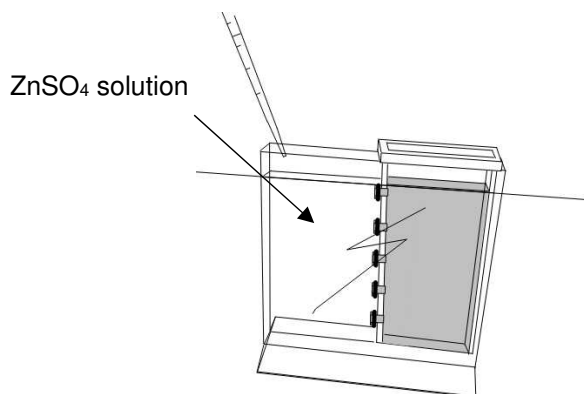

Fig.7 Injecting zinc sulfate solution
5. Inject carefully zinc sulfate solution into the large container using another pipette or another dropper to reach the same level of copper sulfate solution in the small container (Fig.7).